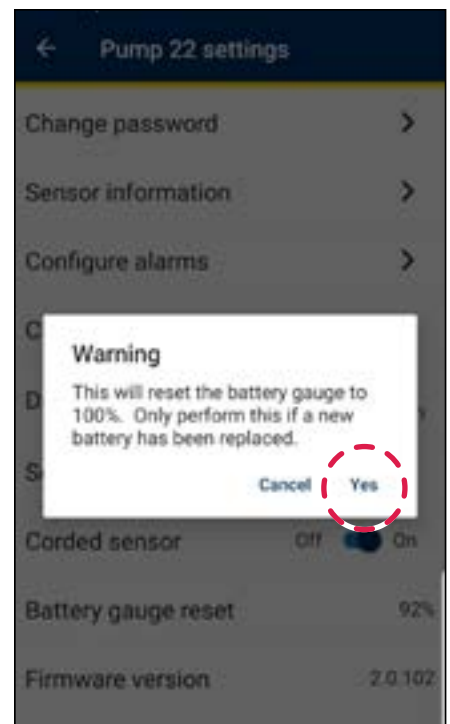

Figure 49
4. A Warning will appear, click **Yes** and reset to 100% battery (see figure 49).